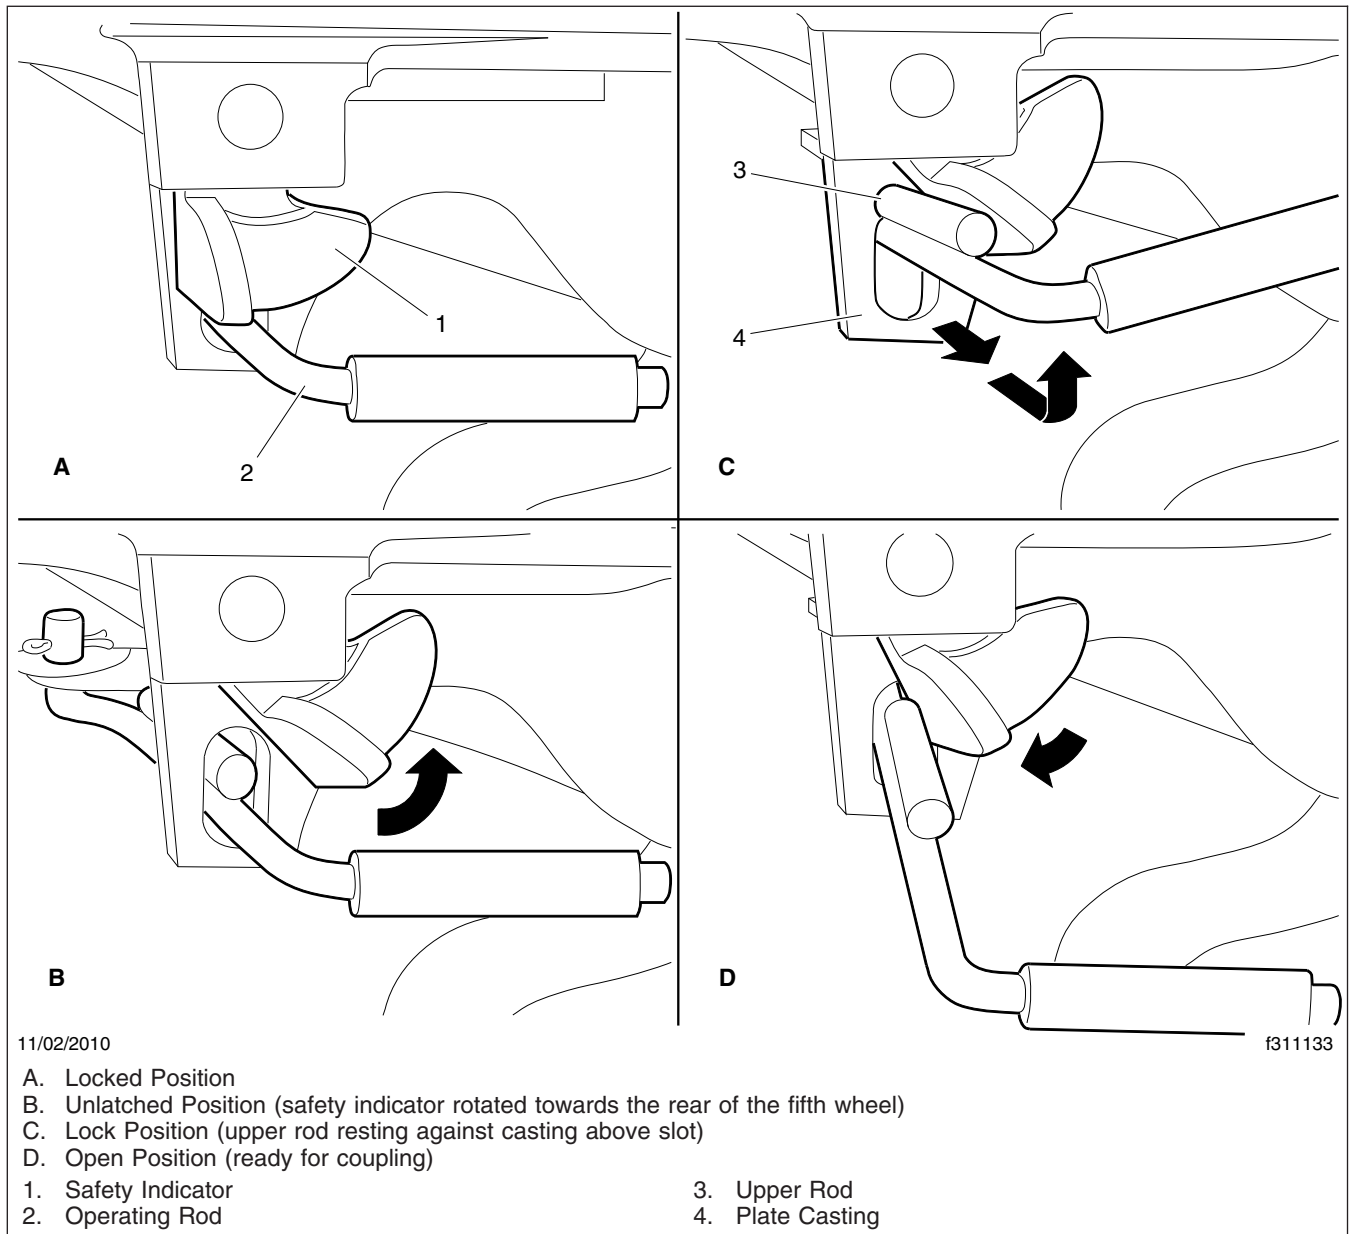

Fig. 18.10, Holland Kingpin Locking Mechanism
- Holland:** In the locked position the safety indicator swings freely over the operating rod. See Fig. 18.10, View A.
To unlock the mechanism, manually rotate the safety indicator toward the rear of the fifth wheel. See Fig. 18.10, View B.
Pull the operating rod out. When the upper operating rod shoulder is outside the slot, raise the handle and place the shoulder of the upper rod against the plate casting, above the slot. See Fig. 18.10, View C.
The fifth wheel is now in the lock position and is ready for uncoupling. As the tractor pulls away from the trailer the kingpin forces the jaw to rotate, contacting the lock. Continued rotation of the jaw forces the lock to move outward, and drops the upper rod back into the slot. See Fig. 18.10, View D. The wheel is now ready for coupling.